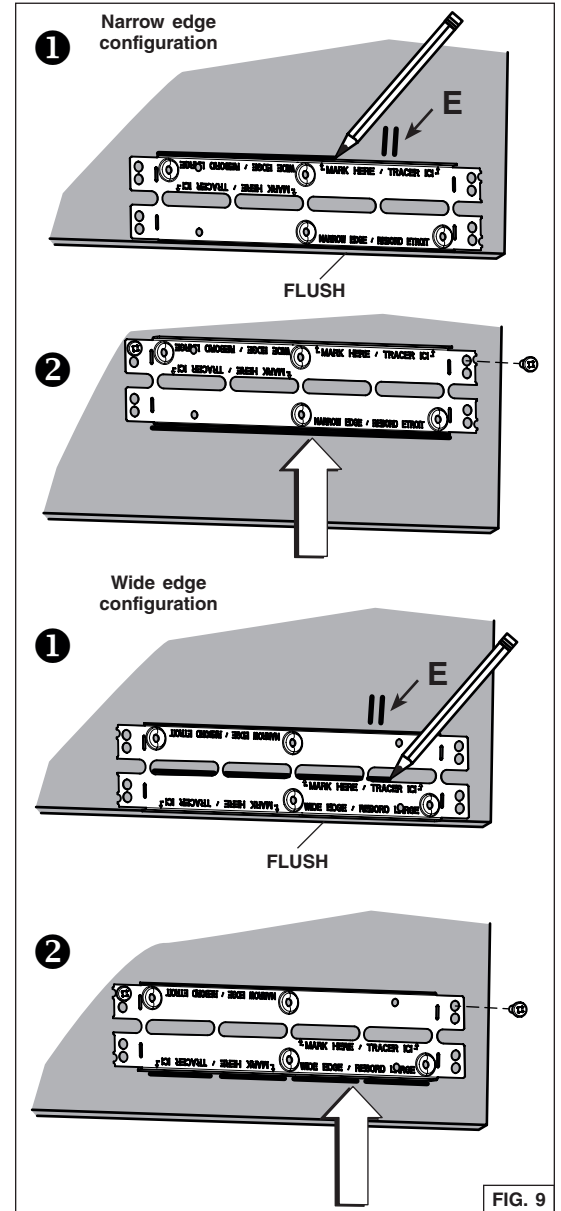

FIG. 9
4. Pay attention to the Ease of Install hooks location on the unit (distance given from unit front flange, FIG. 8). Measure and mark the position of the Ease of Install hooks (shown as E in FIG. 9 on next page) on both cabinet side walls.
5. Install the cabinet brackets as follow (FIG. 9):
① Align the bracket flush with the bottom of the right cabinet side panel, with the hooks marked position (E) between the bottom embossed holes. For the narrow edge configuration, trace a line on the top of the bracket. For wide edge configuration, trace a line at the bottom of the central slots.
② Lift the bracket flush with the marked lined. Assemble the bracket to the cabinet side panel using 2 no. 8 x 5/8" wood screws (included in parts bag) through the upper holes.